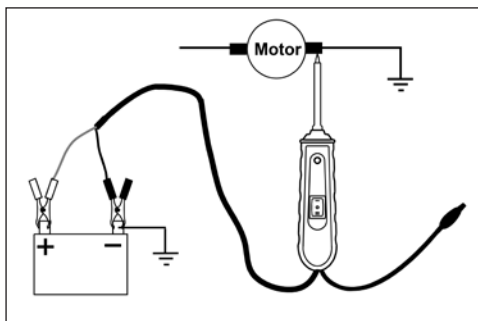

Fig.9
6.9 Checking for Bad Ground Contacts (Fig.9)